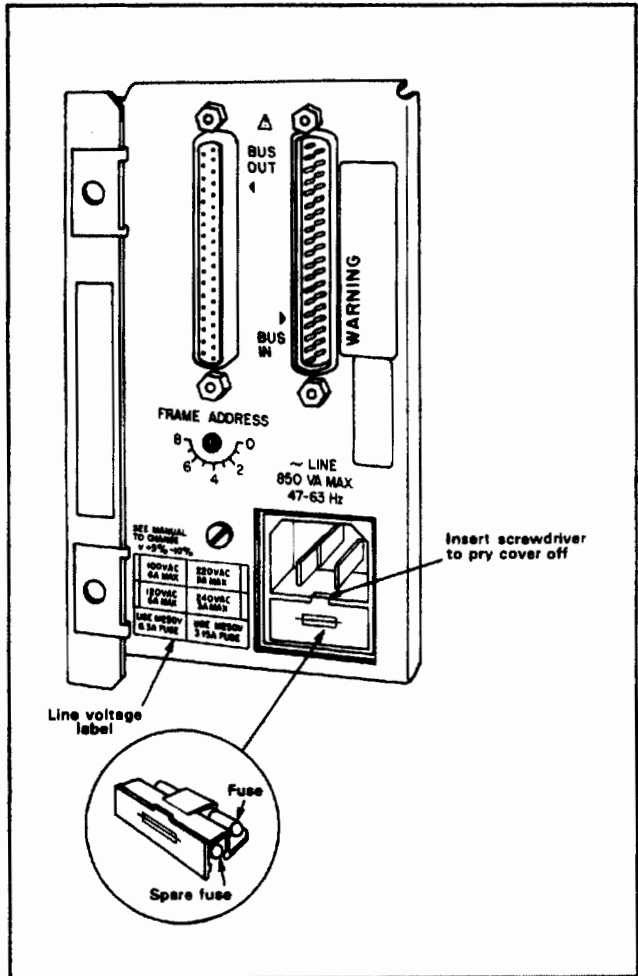

Figure 3-4. Location of Frame Address Switch & Line Fuse.
Frame Address Switch. A frame address switch is located on the rear of the mainframe (see Figure 3-4). Check that the switch is set to 0 (zero), which should be the factory default setting.
- a. **A-C Line Fuse.** The line fuse is in a fuseholder located just below the a-c input socket (see Figure 3-4). Use a screwdriver to extract the fuseholder from underneath the a-c socket. Check that the fuse (and the spare inside the fuseholder cover) has the following value: